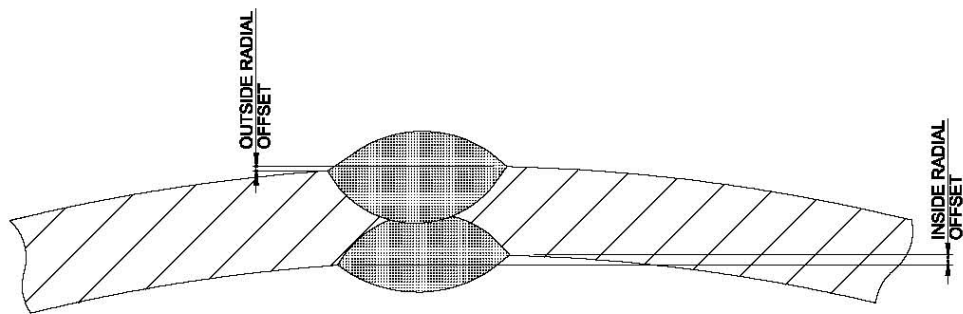

FIGURE 2 - DIMENSIONAL DEVIATIONS OF THE WELD SEAM
- c. Radial Offset: A maximum radial offset of 1/8 inch shall be permitted. The offset shall be transitioned with a taper weld at the slope not less than 1 times the thickness of 2.5 times the length. See Figure 2 at end for additional clarification.